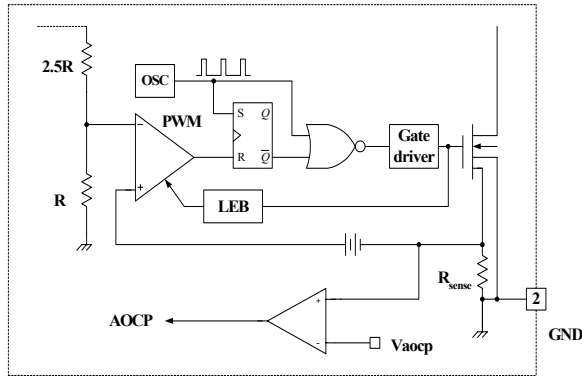

Figure 9. AOC block
3.2 Abnormal Over Current Protection (AOCP) : When the secondary rectifier diodes or the transformer pins are shorted, a steep current with extremely high di/dt can flow through the SenseFET during the LEB time. Even though the FS7M-series has OLP (Over Load Protection), it is not enough to protect the FPS in that abnormal case, since severe current stress will be imposed on the SenseFET until OLP triggers. The FS7M-series has an internal AOCP (Abnormal Over Current Protection) circuit as shown in Figure 9. When the gate turn-on signal is applied to the power Sense FET, the AOCP block is enabled and monitors the current through the sensing resistor. The voltage across the resistor is then